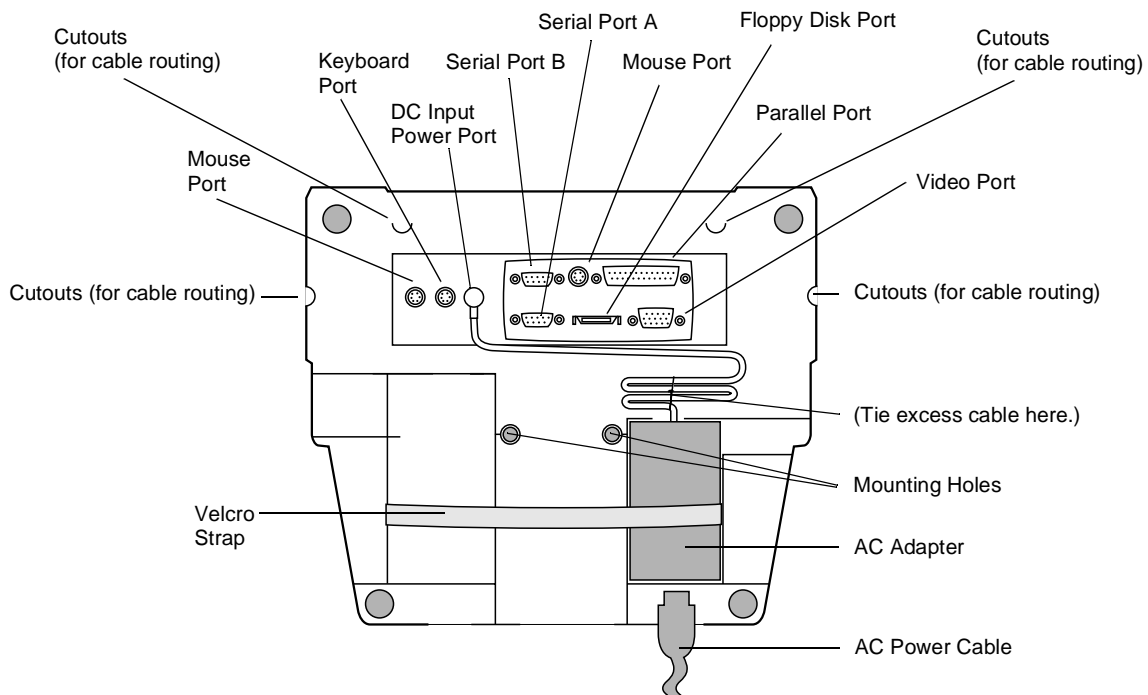

Figure 2-11. High-Connectivity Cradle Bottom View
2. Detach one end of the Velcro strap and insert the AC adapter into the cavity in the bottom of the cradle base as shown in Figure 2-11.
5. Coil the DC supply cable of the AC adapter into “figure-eight” loops as shown in Figure 2-11 and tie the coiled cable using the tie wrap provided. Ensure that there is enough slack in the cable to allow the cradle module to pivot to the fully tilted position.
- Through the cutouts provided in the front and sides of the cradle base called out in Figure 2-11.
Peripheral connectors on the high-connectivity cradle are described in Table 2-4. Figure 2-11 shows the location of these connectors on the high-connectivity cradle. Note that the ability of the pen tablet to